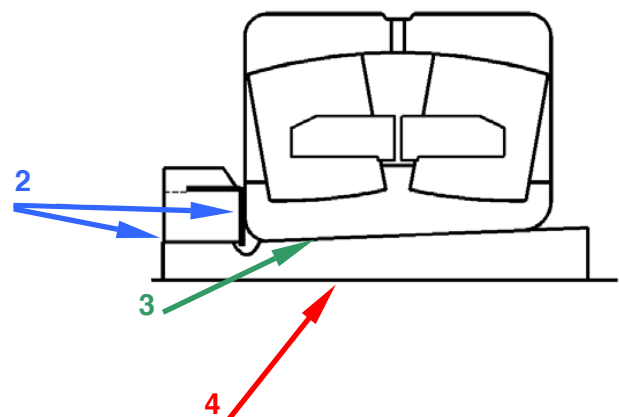

fig 1.
2. When assembling the components, use a very light smear of never seize between the lock washer and the lock nut, and on the adapter sleeve thread. This will reduce the considerable effort required to tighten the adapter sleeve and set the *clearance in the bearing* (see fig 1. right).
light smear of oil between the sleeve O.D. and the bearing I.D. (see fig 1. below.) This will also reduce the considerable effort required to tighten the adapter sleeve and set the clearance in the bearing.
4. The O.D. of the shaft, and the I.D. of the Sleeve, must be kept dry (see fig 1 below) in order to maximise the friction between the shaft and the I.D. of the sleeve. To achieve this you must wipe the packaging oil from the I.D. of the sleeve.